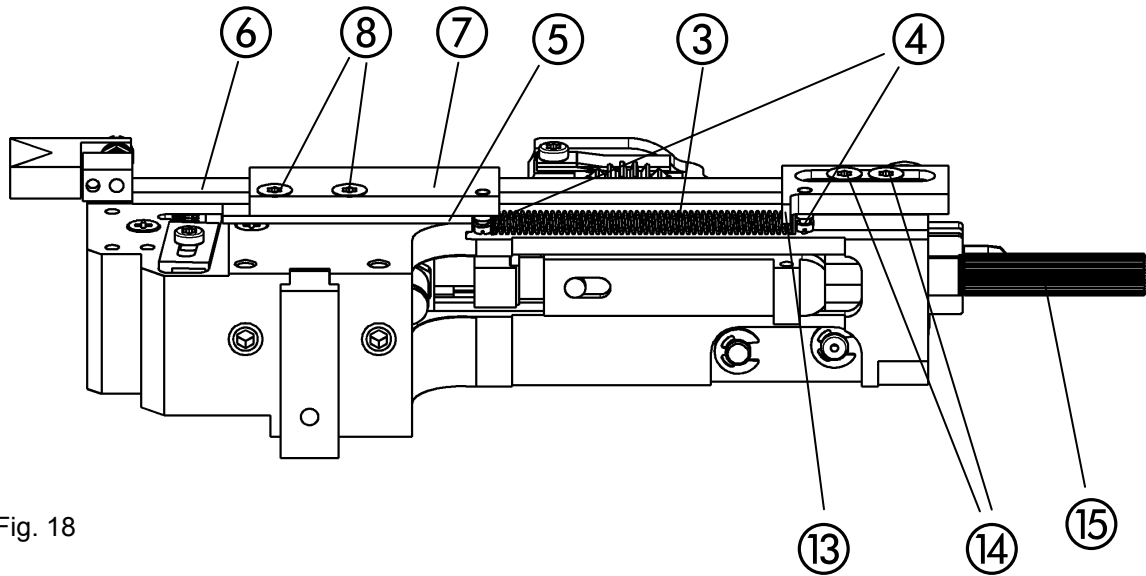

Fig. 18
- Fig. 18 -
- Attach tension spring ③ to the two spring bolts ④.
- Mount distance plate ⑤ on stitching head.
- Insert slotted screw ⑩ laterally into the chlincher box mounting.
- Fix slide ⑨ with slot on slotted screw and tighten lightly using the locking nut ⑪.
- Push the complete slide ⑨ against the chlincher box.
- Align the V-block of the slide to the center of the chlincher box with the help of the M5 setscrew ⑫ .
- Tighten the locking nut ⑪.
- Fig. 18, Fig. 18a, Fig. 19 -